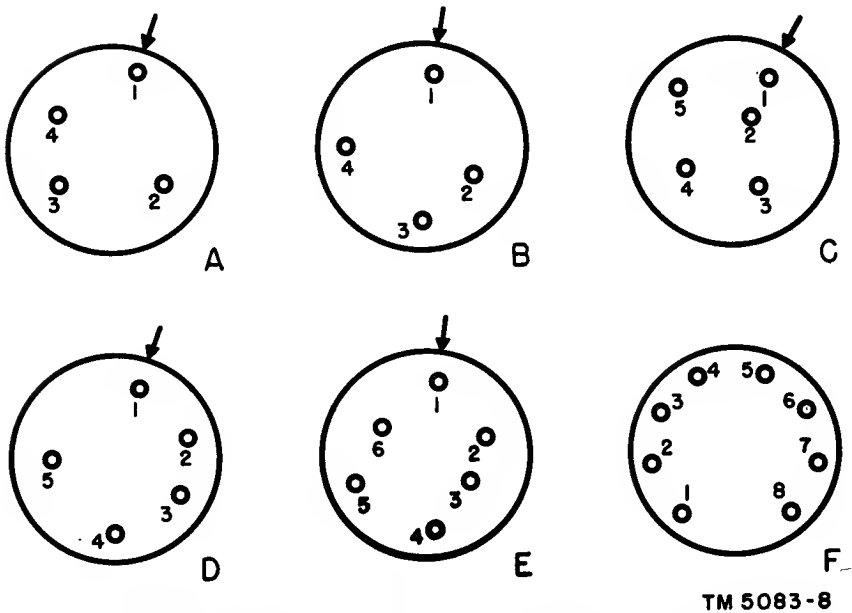

Figure 7. Basing diagrams for subminiature tubes (Letters A, B, C, D, E and F identify basing for use with test data book.)
- (a) There are several basing arrangements used for these tubes as illustrated by figure 7. Examine the tube; identify the basing (fig. 7) and check the *Notations* column in the tube test data book. Proceed as directed in (b) below. On subminiature tube types with long leads, use adapter E104 as directed in l (2) below.)
- (3) Subminiature type tubes are identified in the test data book by a star beside the type number. The applicable basing for the various round types is indicated under the column headed *Notations*. The basing designation letter refers to the diagrams shown in figure 7.